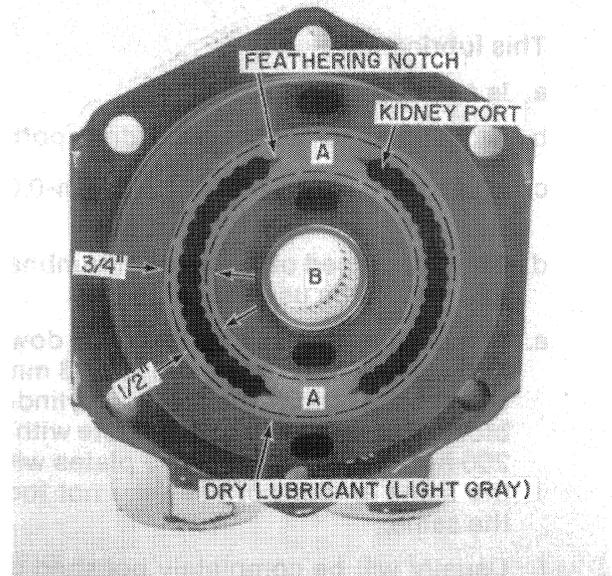

FIGURE 5-14
After heat-treating, a 3/4" (20 mm) wide band of dry-film lubricant is applied to the back plate, Figure 5-14.
- f. Usually will be completely polished off (along with the black outer layer) between the two PISTON kidney ports, Figure 5-14.
Check the sides of the valve plate for wear, grooves, or metal buildup in the ½" (13 mm) wide area contacted by the rotating piston block, A, Figure 5-14. This area should not feel rough or grooved when scraped crossways with your thumbnail. Sometimes the unpolished edge of the dry-film lubricant can be felt, but the valve plate is not worn and can be used.
Check the needle bearings for wear, B, Figure 5-14. These bearings are pressed into the valve plate, with bearing numbers to the outside.